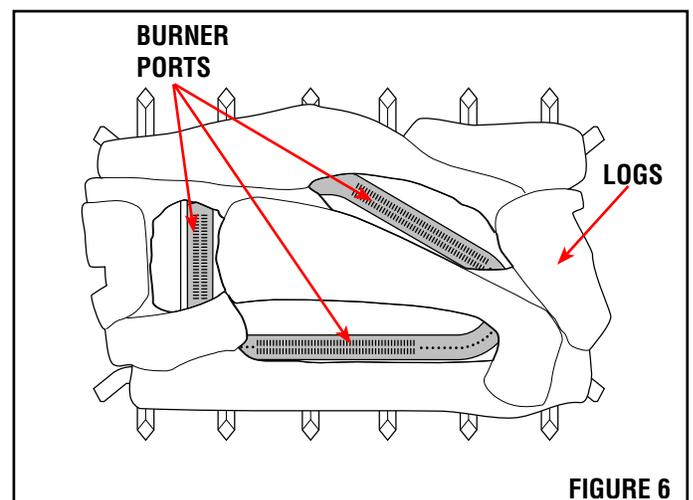

FIGURE 6
6. Make sure open areas of logs line up with burner ports (see *Figure 6*). Logs will fit securely on chassis. **IMPORTANT:** Make sure log does not cover any burner ports.